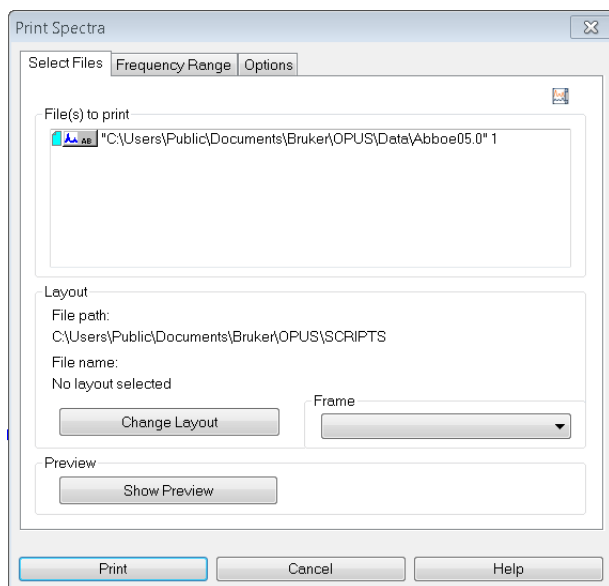

Figure 4.17: *Print Spectra* dialog
2. On the dialog that opens (figure 4.17), you can individually define the basic settings for the print-out.